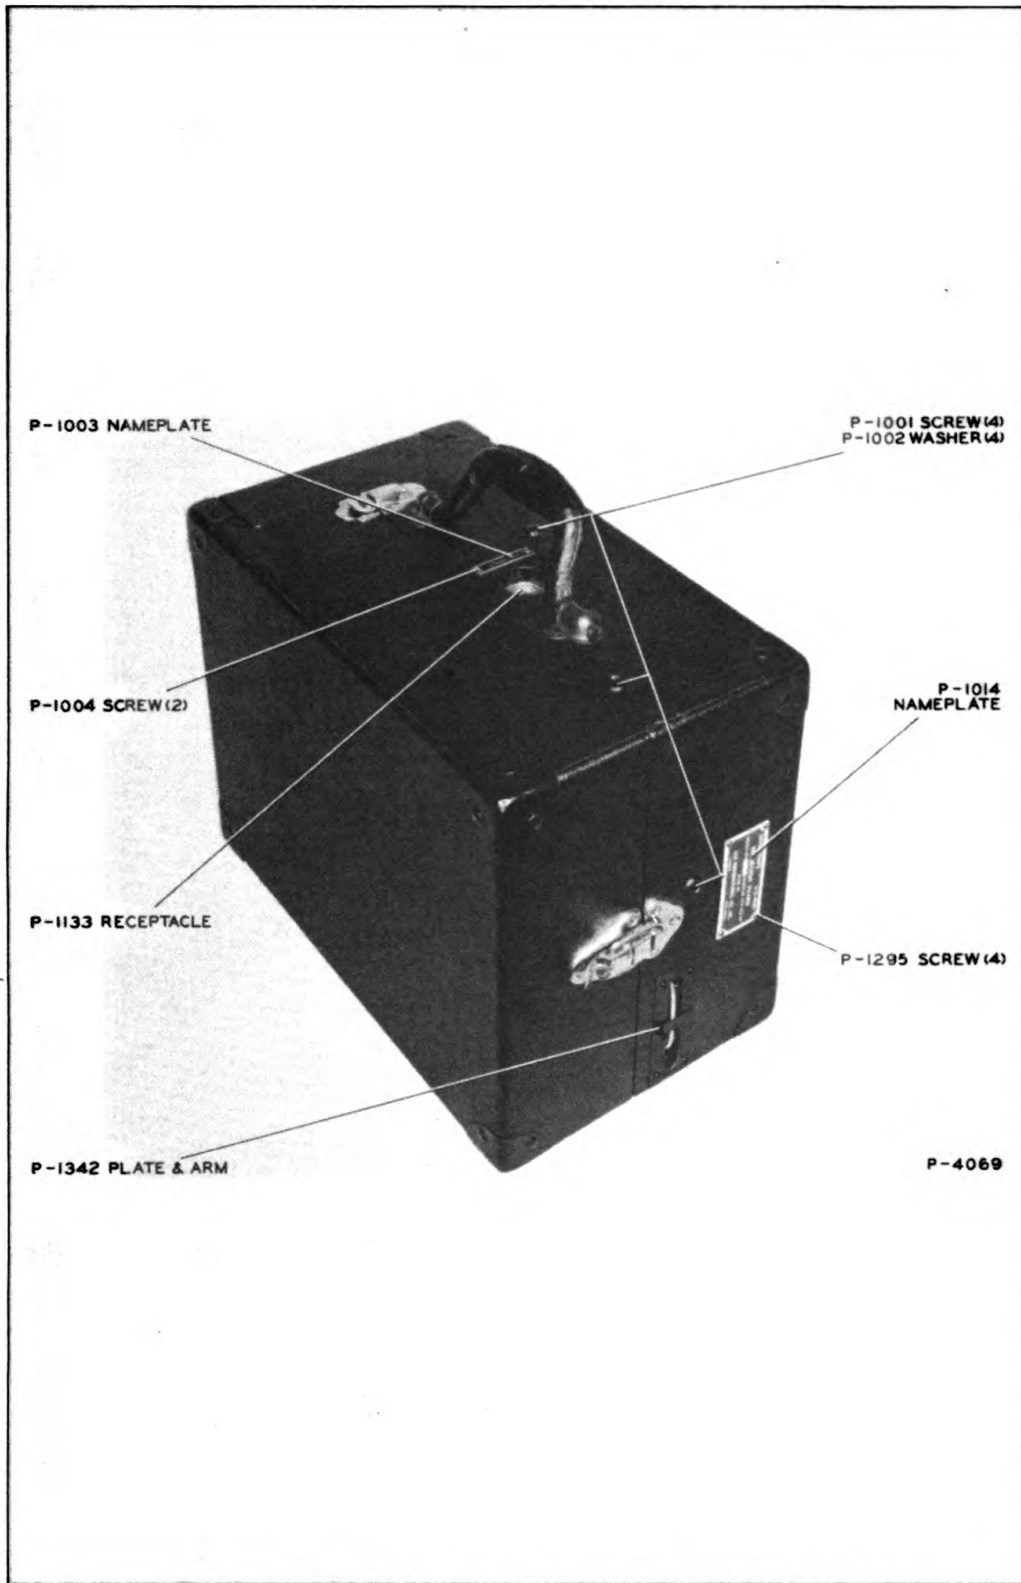

Figure 1-A—16 mm. Projector in Carrying Case
*b.* The projector and loudspeaker cases are constructed of heavy plywood suitably reinforced, and covered on the outside with a fine grain, black Fabrikoid. The amplifier case is made of steel and finished in black crackle to match the other units. Figures 1-A, 2, and 3-A show views of the three units in their respective carrying cases.